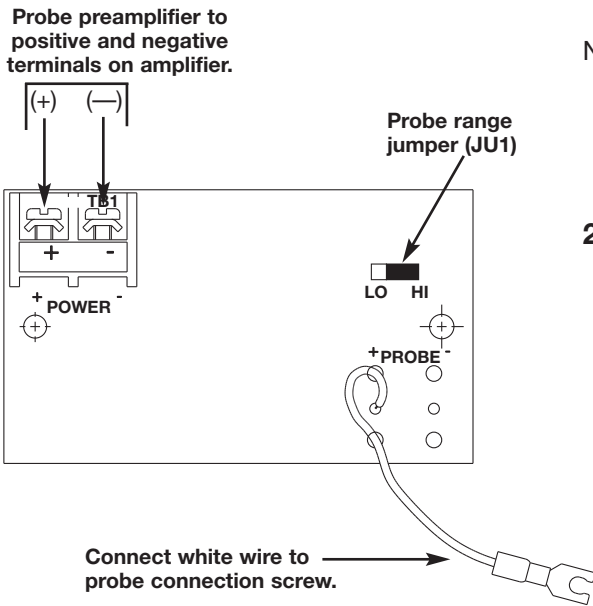

Figure 9
Remote type units are furnished with a preamplifier housing having a circuit board with preamplifier-to-amplifier terminals. Preamplifier connection terminals are located at the upper left side of the preamplifier circuit board. Refer to Figure 9.
3. Connect the red lead to the positive (+) terminal on the probe preamplifier board. Refer to Figure 9.
The preamplifier circuit board has a range jumper (JU1), see Figure 9 on page 9. For remote units, this board is located in the probe enclosure.